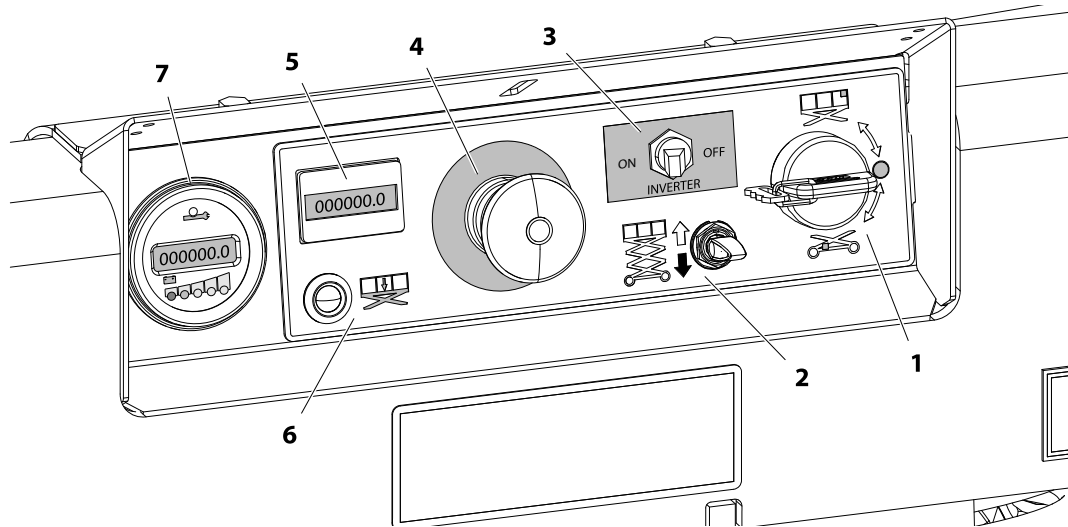

Figure 3-2. Ground Control Station
- 1.** From the **Ground Control Panel** with no load in the platform: *(See Figure 3-2. on page 3-5)*
(Item 1 - Figure 3-2.)
(Item 2 - Figure 3-2.)
(Item 3 - Figure 3-2.)
(Item 4 - Figure 3-2.)
(Item 5 - Figure 3-2.)
(Item 6 - Figure 3-2.)
(Item 7 - Figure 3-2.)